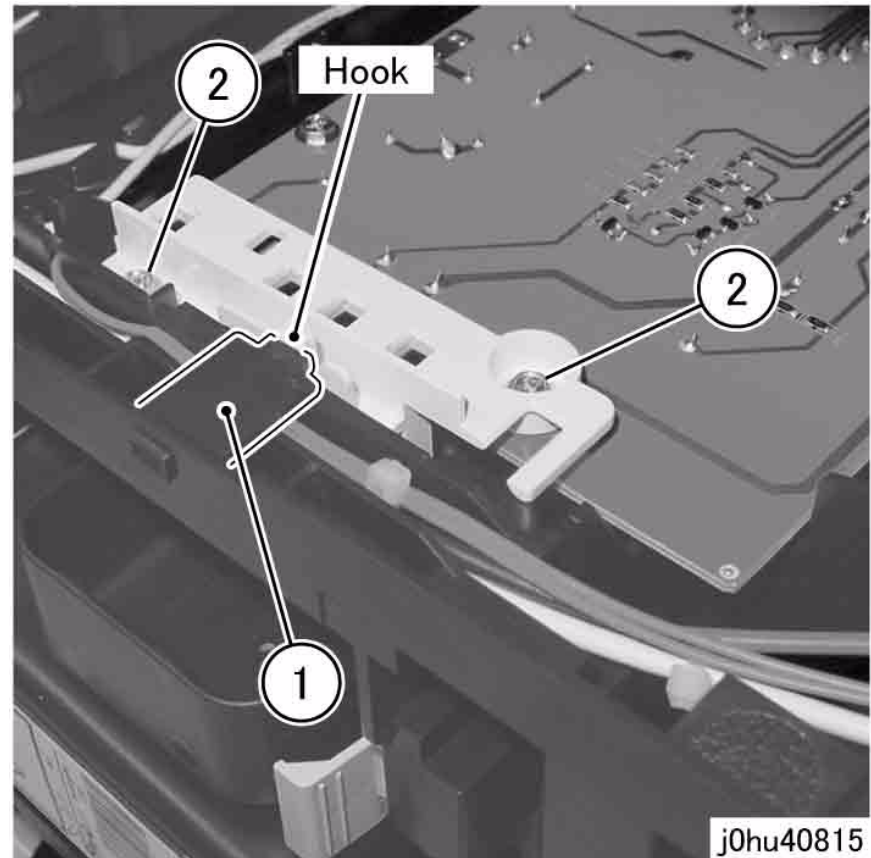

Figure 2 Prepare Contact Block
5. Remove the Self Tapping Screws that secure the Contact Block (Figure 2).